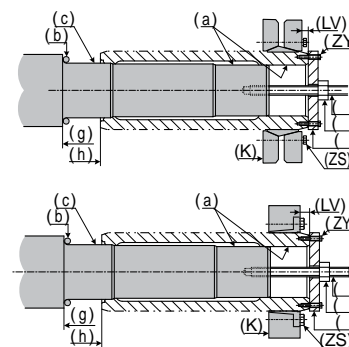

Abb. 13
Mounting procedure - Fig. 13
Note 1. In case of a vertical type unit, mount a thrust washer (B) to prevent the reducer from moving when locking nut (ZS) is loosened. (Fig. 13)